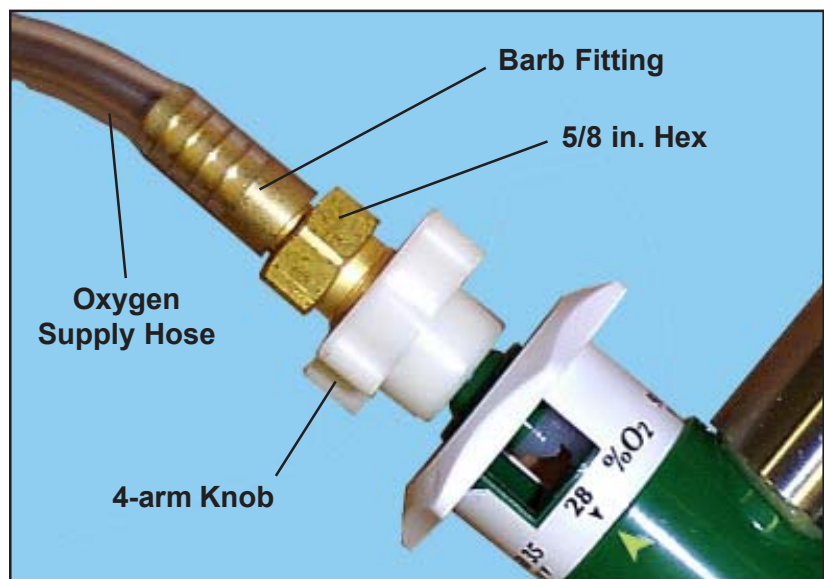

Figure 21. Nebulizer Barb Fitting
1. Push one end of the oxygen supply hose onto the barb fitting on top the bottle (Figure 21). **Note:** A small amount of grease on the barbs will ease assembly.
The hose barb fitting connects the oxygen supply hose to the nebulizer (Figure 21). To replace the fitting: